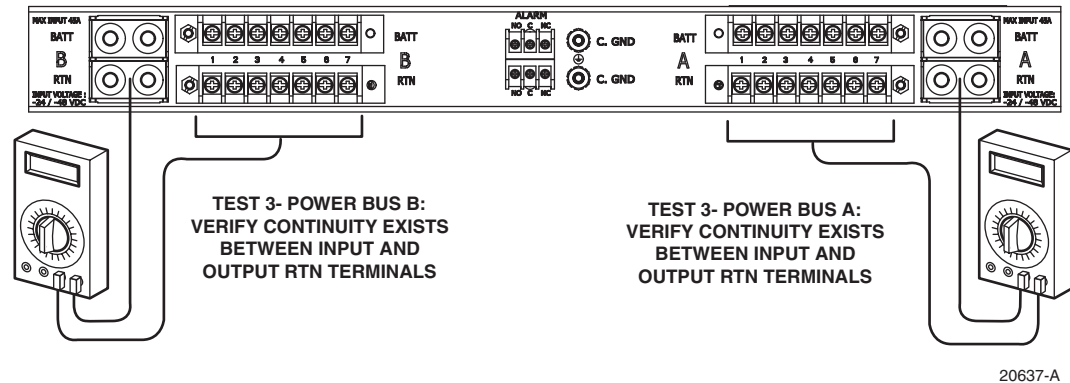

Figure 9. Test 3: Input Return to Output Return
- Starting at bus A, connect the negative test probe to the RTN input power terminal and the positive test probe to the RTN output power terminal for circuit 1 (Figure 9).